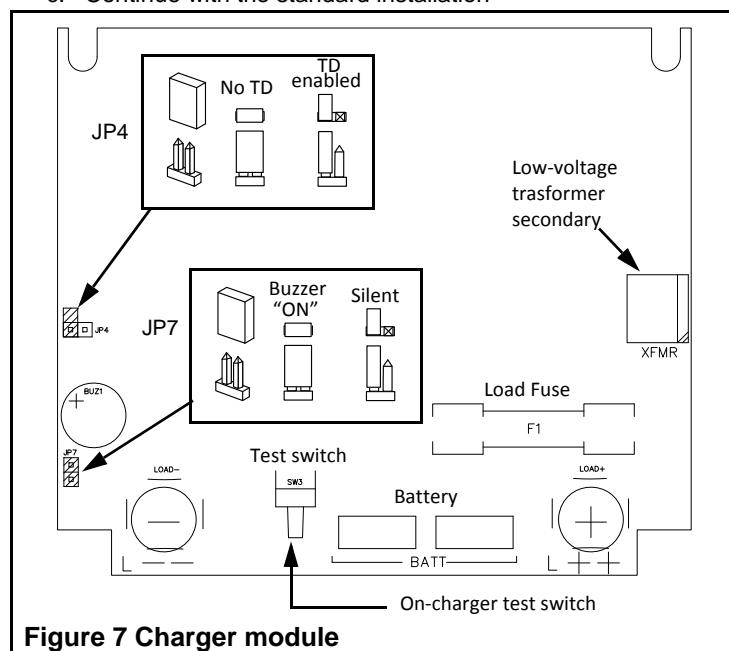

Figure 7 Charger module
The Time Delay feature can be enabled or disabled in the field with the following procedure (See figure 7):
- On-charger manual test:** the unit also has a test button installed on the charger module located on the bottom of the unit (See figure 7). This is useful during maintenance, with the unit door open. The button performs the same functions as the remote control.
The audible service alarm can also be permanently disabled in the field by disconnecting the jumper JP7 (See figure 7).